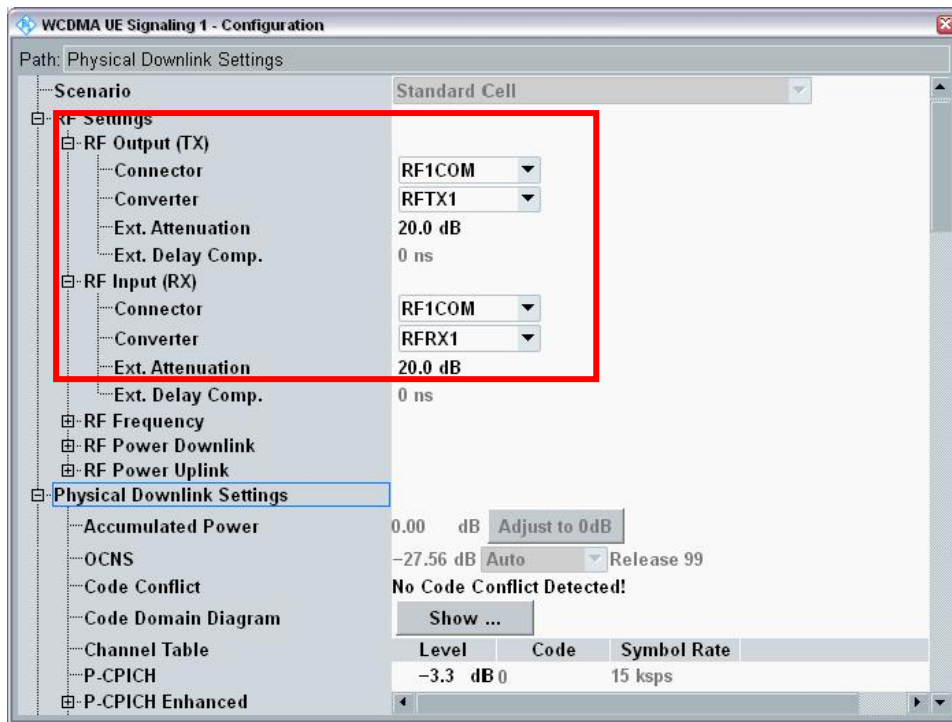

Figure 36: WCDMA Configuration
3. Set the **RF Output (TX)** and **RF Input (RX)** settings according to the attenuation of the antenna and antenna cable (**External Attenuation** in Figure 36: WCDMA Configuration).